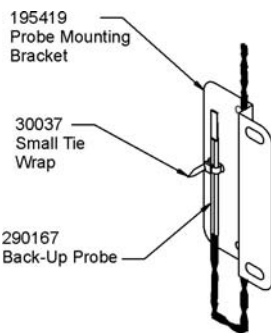

Figure 6-3
- As shown in Figure 6-3, thread the small tie wrap through the openings in the front of the bracket. Secure the probe on the back of the bracket with the tie wrap.